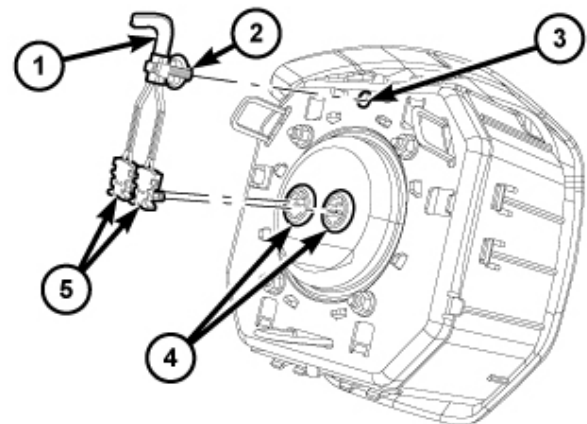

Figure 5 – Pigtail Wiring Harness Retainer
12. Pull the DAB away from the steering wheel far enough to access and disengage the plastic push-in retainer (2) of the clockspring pigtail wire harness (1) from the locator hole (3) at the 12 o'clock position on the back of the airbag housing (Figure 5).